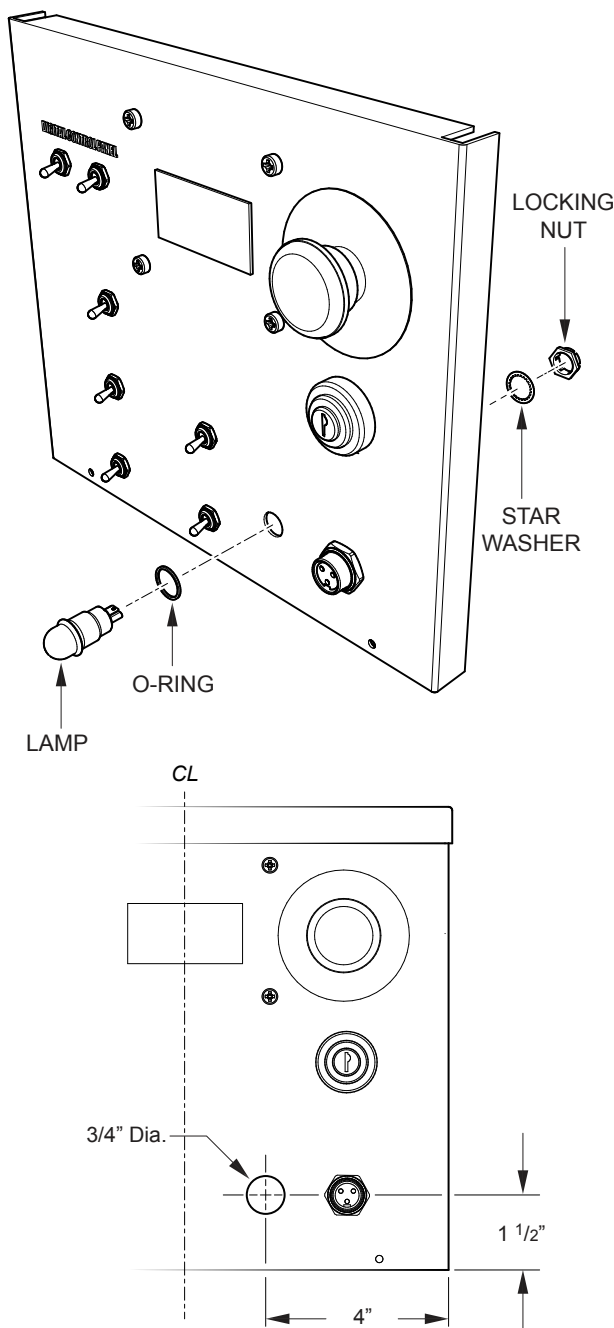

Figure 7. Glow Plug Indicator Lamp Mounting
5. Drill a 3/4-inch diameter hole as referenced in Figure 7. This hole will be for the mounting of the glow plug indicator lamp.